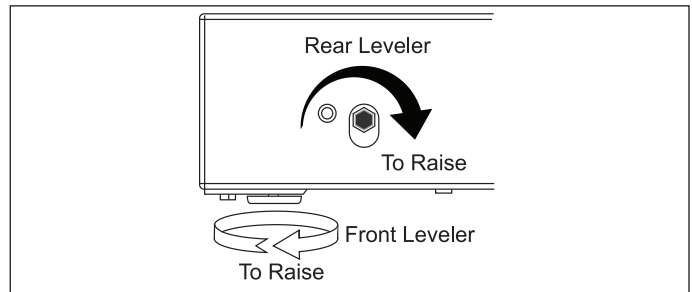

Figure 2-26.
1. To adjust the height of the cabinet back, use an adjustable wrench and turn the leveling bolt clockwise to raise or counterclockwise to lower. (See Figure 2-26).
2. To adjust the height of the cabinet front, turn the front leg leveler clockwise to raise or counterclockwise to lower. (See Figure 2-26).